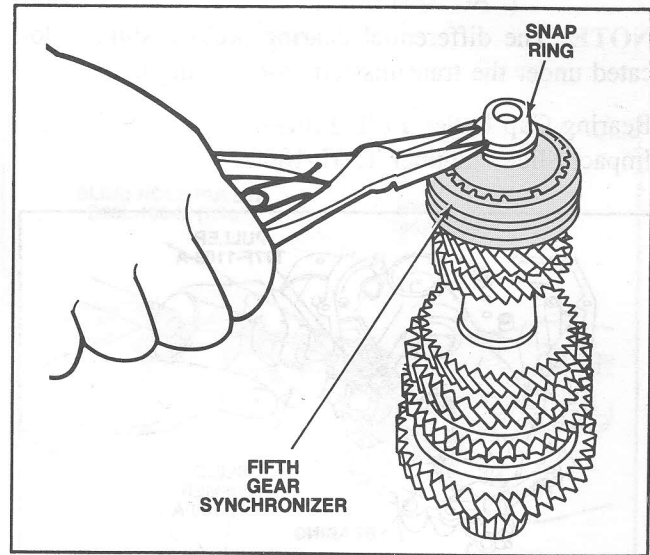

Figure 64 Snap Ring Removal
4. Remove the fifth gear synchronizer snap ring and stop washer. (Figure 64).